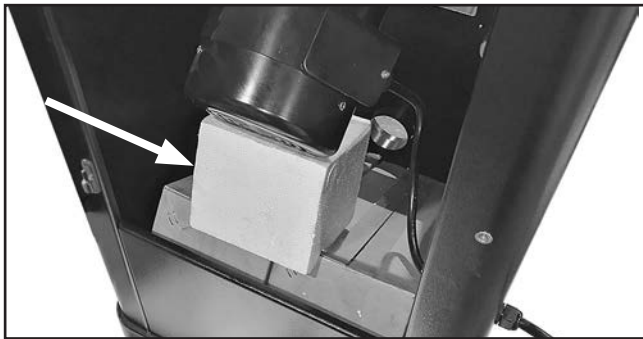

Figure 16. Foam shipping block location.
1. Using blade height handwheel (refer to **Page 3**), raise motor and remove foam shipping block (see **Figure 16**). Save block for later machine transport.